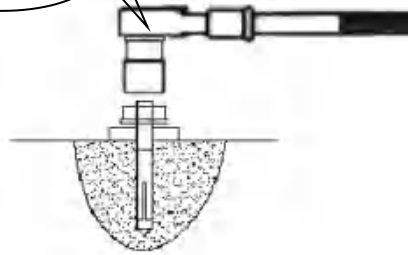

Fig.25
2. Hang the hook of top beam (Right) on the other outer column, and then bolted to top beam (Left). (See Fig. 25).